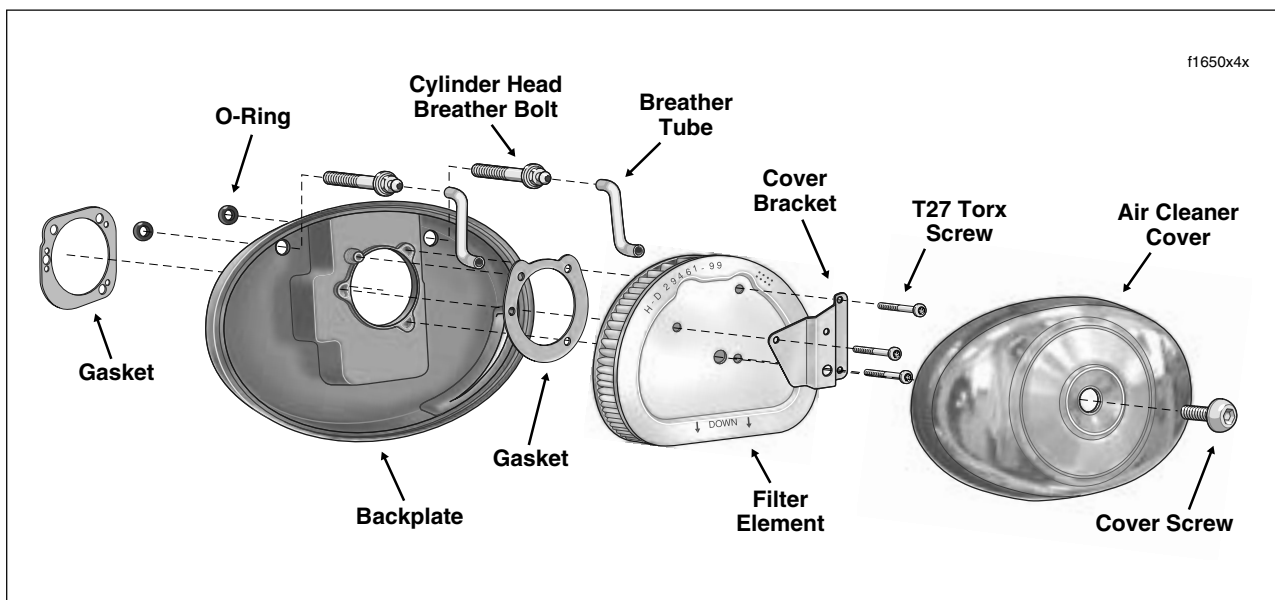

Figure 4-14. Air Cleaner Assembly
1. Remove large allen head socket screw in center of air cleaner cover. Remove air cleaner cover with rubber seal. See Figure 4-14.